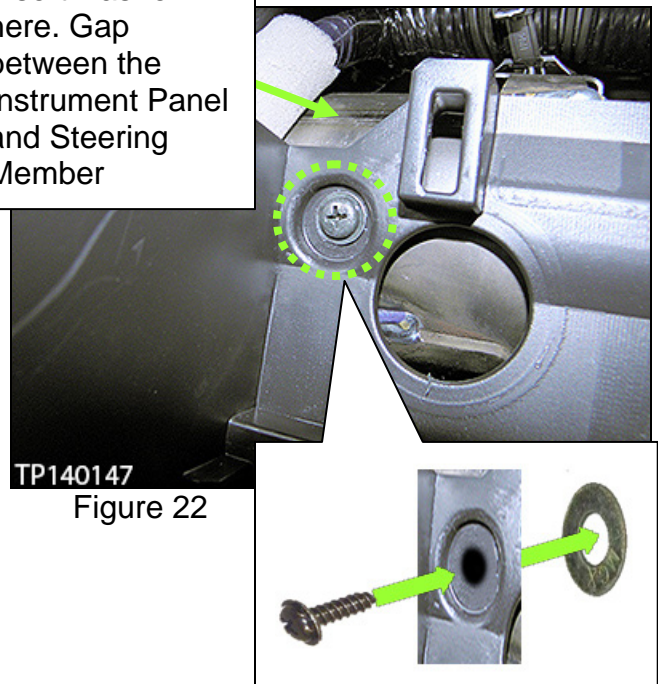

Figure 22
17. Insert one (1) shim (steel washer) between the Instrument Panel and Steering Member (Figure 22).